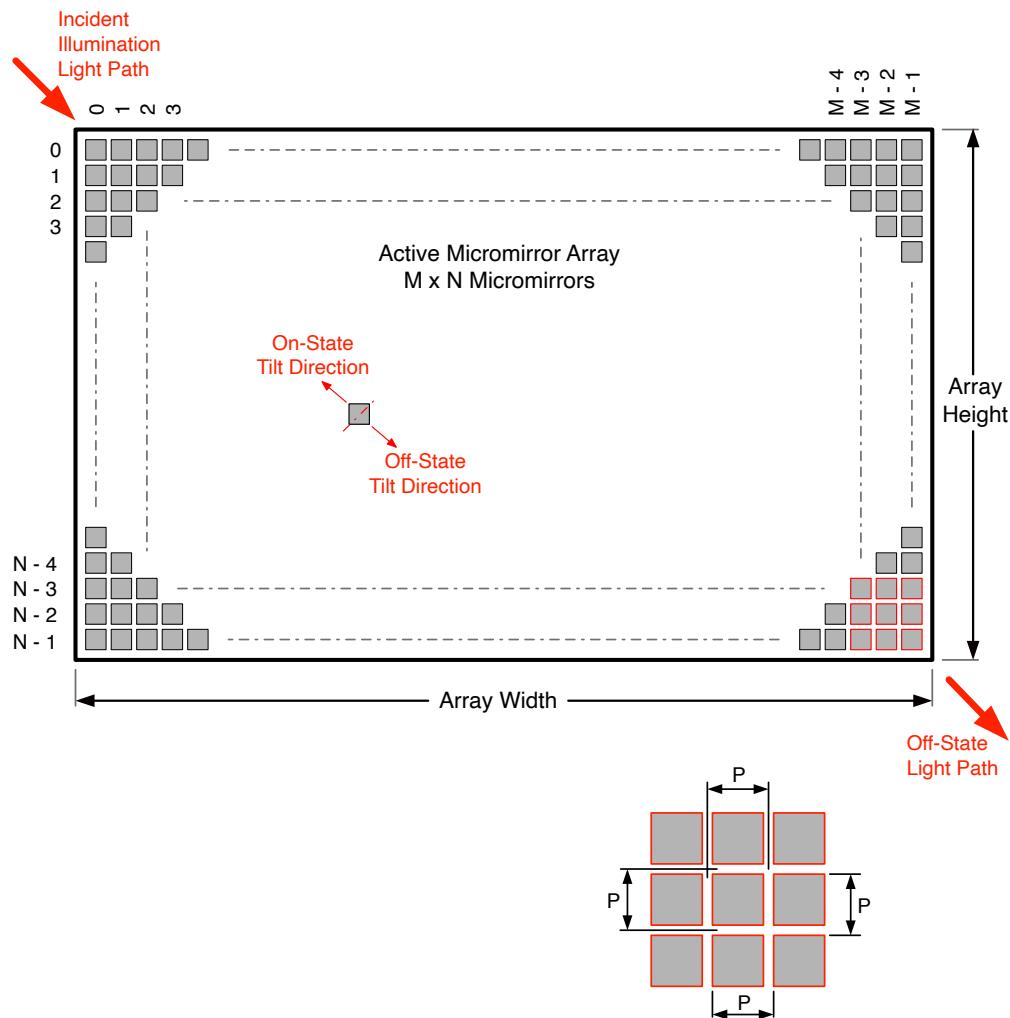

Figure 5-13. Micromirror Array Physical Characteristics
(1) See Figure 5-13.
(2) The structure and qualities of the border around the active array include a band of partially functional micromirrors called the POM. These micromirrors are structurally and/or electrically prevented from tilting toward the bright or ON state, but still require an electrical bias to tilt toward OFF.
The DLP991UUV Digital Micromirror Device (DMD) is a 0.99-inch diagonal spatial light modulator that consists of an array of highly reflective aluminum micromirrors. The DMD is an electrical input, optical output micro-electrical-mechanical system (MEMS). The input electrical data interface is a differential high-speed serial interface (HSSI). The DMD consists of a two-dimensional array of 1-bit CMOS memory cells. The array is organized in a grid of M memory cell columns by N memory cell rows. Refer to Figure 5-13. The positive or negative deflection angle of the micromirrors can be individually controlled by writing a '1' or a '0' to each memory cell, thereby changing the address voltage of the underlying CMOS addressing circuitry.